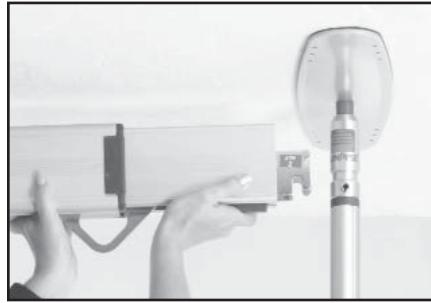

Figure 23
19. Take one of the rails with a trolley and hooks installed and tilt (45°) to place it on the post that is secured in place (Figure 23). If pins on top of post are not facing in the direction desired, place rail onto pins and rotate to the desired direction.
NOTE— Tilt the rail upward (45°) to latch the rail onto the post (Figure 23).